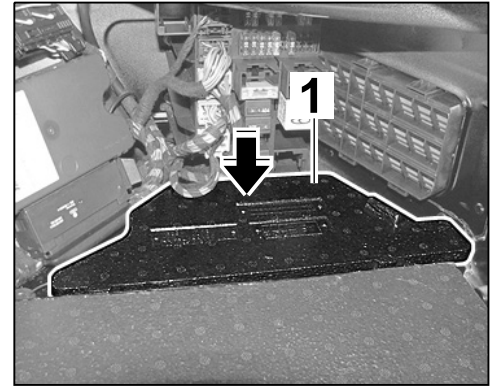

Figure 24
3.3 Fit moulded part ⇒ *Figure 24 -1-*.